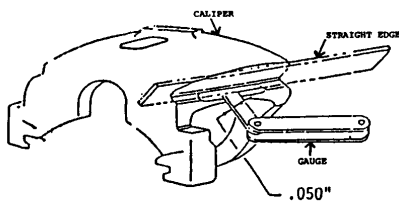

FIGURE 2
3. Lay a straight edge across the caliper V-way surfaces as shown in Figure 2 and measure the wear on these surfaces using a feeler gauge. Calipers which display wear of .050" or greater should be replaced.